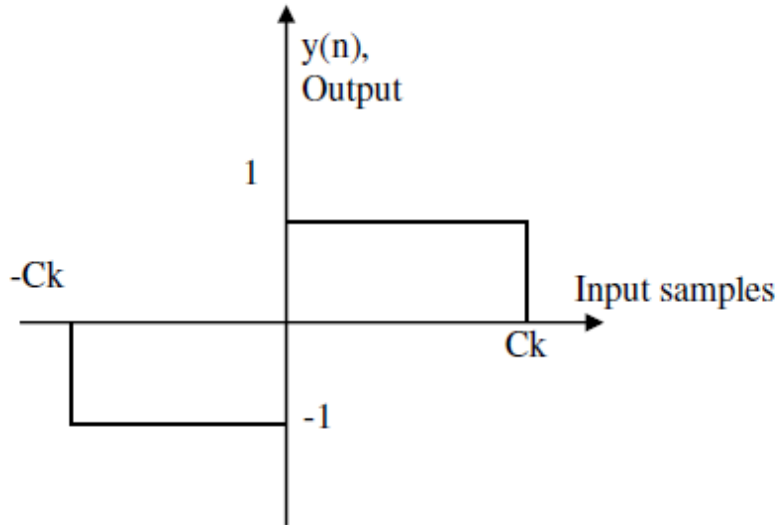

Fig. 8.18: Center Clipper
- The transfer characteristics of three level clipping circuit is shown in fig. 8.18. If the sample value is greater than +CL, the output  $y(n)$  of the clipper is set to 1.